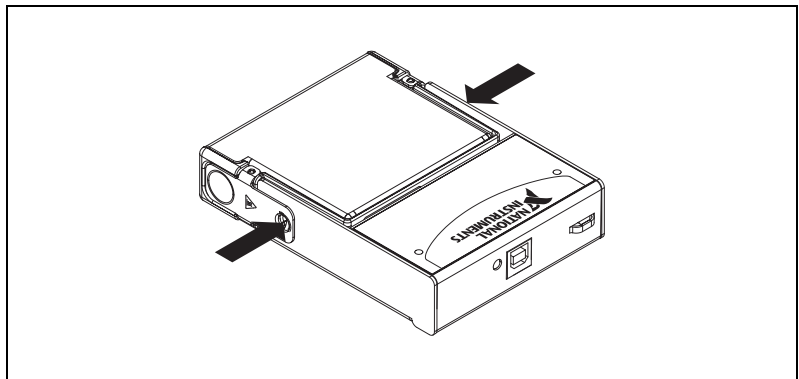

Figure 4. Locking Module into Place
5. Press firmly on the connector side of the NI 9237 module until the latches lock the module into place, as shown in Figure 4.